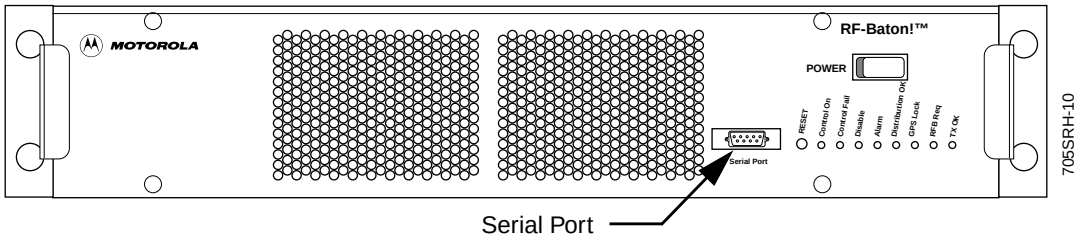

Figure 5-1: RF-B! Transmitter Controller (Front View)
The service terminal is usually an IBM®-compatible personal computer (PC) running a compatible communications software program. Procomm Plus® is the recommended communications software program; however, an equivalent program may be used. The service terminal connects to the serial port on the RF-B! transmitter controller front panel (see Figure 5-1). For convenience, use an RS-232 cable at least 10-ft (3.05 m) long with a DB9 connector.
- 1. Connect the service terminal to the RF-B! transmitter controller serial port connector using an RS-232 cable with a DB-9 connector and a null modem adapter. (See Figure 5-1).